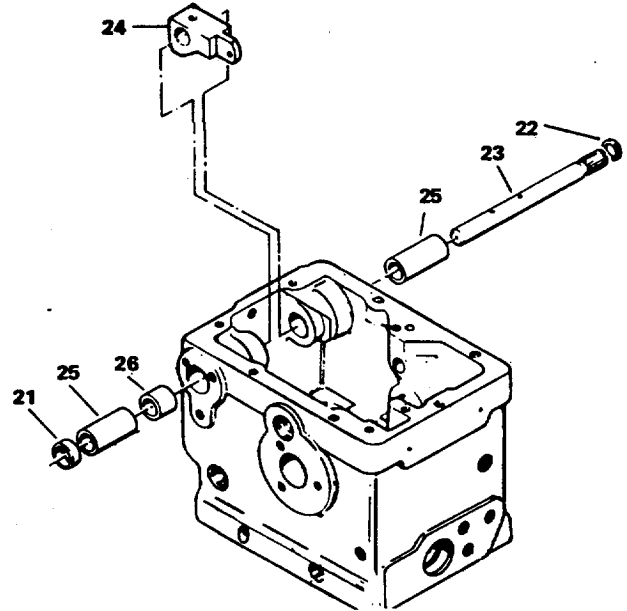

Figure 12-31. Speed Adjusting Shaft Assembly
- (30) Insert speed adjustment shaft (23, figure 12-31) through speed adjusting lever (24), spacer (26) and into hole on opposite side of case. Keep 0.005 to 0.010 inch (0.3 mm)